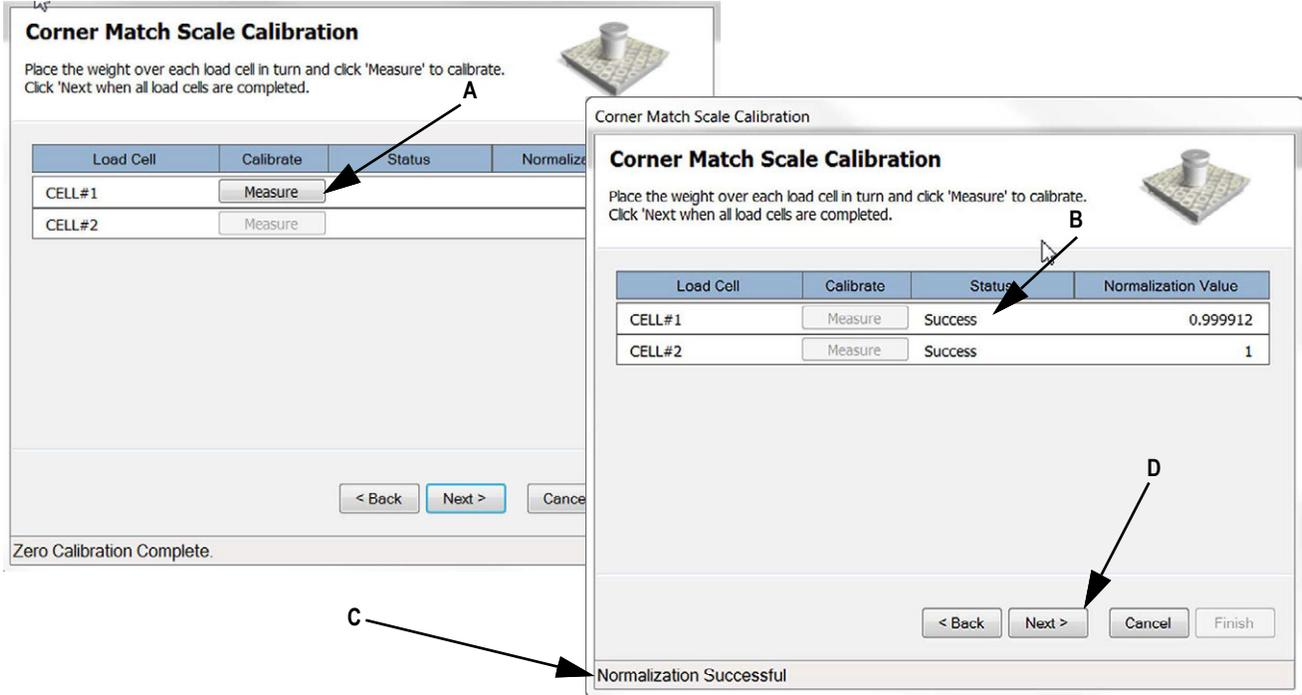

Figure 4-13. Load Cell Calibration
8. Press *Measure* (Figure 4-13 A).
9. Load Cell #1 Status will read *Success* (Figure 4-13 B) and Load Cell #2 *Measure* will become available. Repeat steps 9-11 for Load Cell #2.
10. When both load cells have been calibrated (status reads *Success* for both Cell #1 & #2, Figure 4-13 B) and the *Normalization Successful* message appears (Figure 4-13 C) press **Next** (Figure 4-13 D).